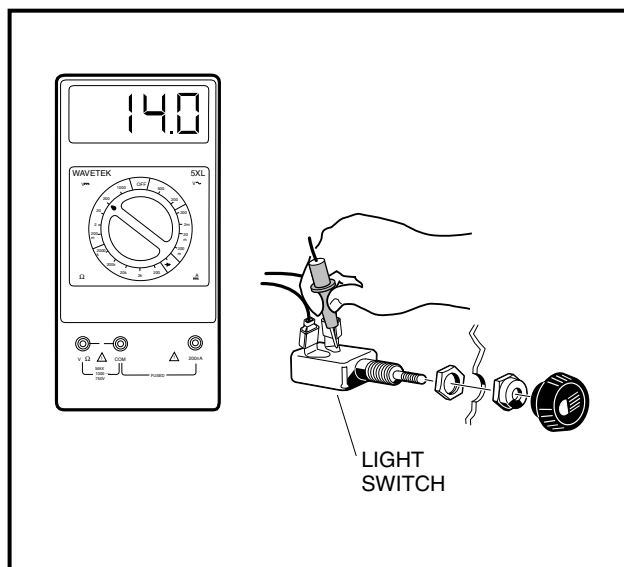

Figure 11-56 Light Switch Test
4. Use a multimeter set on 20 volts DC with alligator clips on the meter probes. Connect the red (+) probe to the light switch terminal with the blue wire connected to it (**Figure 11-56, Page 11-45**).